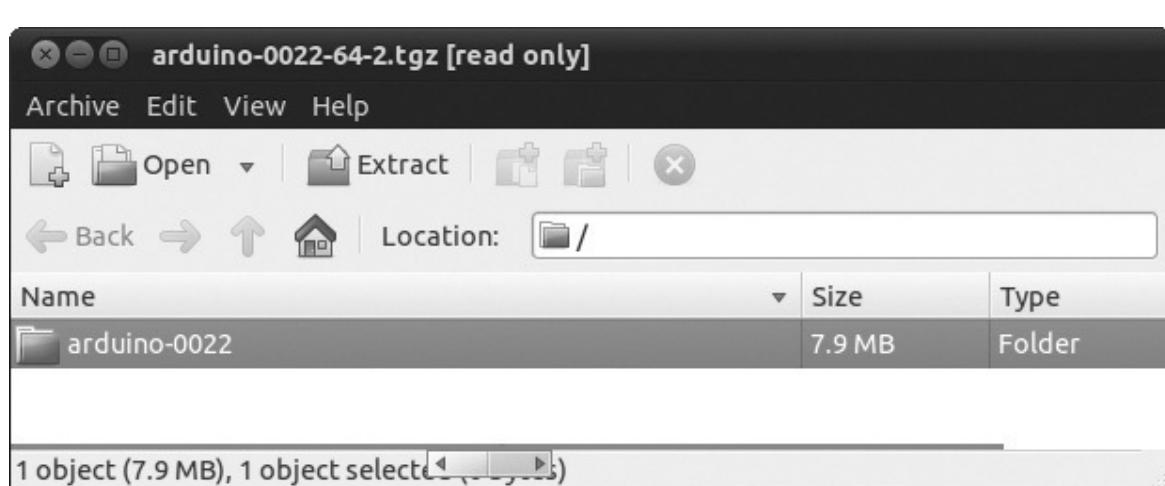

Figure 1-25. The IDE package
3. After the file has downloaded, it will be displayed in the Archive Manager, as shown in Figure 1-25. Copy the *arduino-0022* folder (or something similar) to your usual application or Home folder.